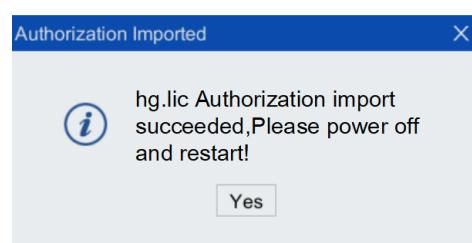

Figure 2-3 Authorization dialog box
Step6. If the authorization import dialog box shown in Figure 2-3 pops up and displays "Import succeeded", click <Yes> to complete the authorization.